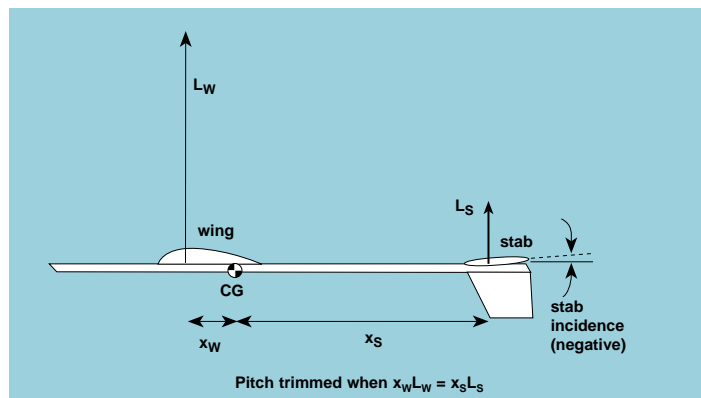

Figure 15 - Pitch trim of a glider
The wing of a boost glider is not stable in pitch all by itself. The lift of the wing is assumed to act through a point called the *aerodynamic center* which is located near the quarter chord point (1/4 of the chord length back from the leading edge). The center of gravity (CG) of the wing is typically behind the aero-center, resulting in a pitching moment that would cause the wing to pitch up and tumble end-over-end. The most common way to achieve pitch stability is by adding a second, smaller aerodynamic surface called the *horizontal stabilizer* (or *stab*). The stab produces an opposite pitching moment to counter the pitching moment of the wing (see figure 15). The glider is said to be *trimmed* (or balanced) in pitch when the upward pitching moment due to wing lift (given by  $x_w$  times  $L_w$ ) is equal in strength to the downward pitching moment of the stab (given by  $x_s$  times  $L_s$ ).
where  $A_w$  and  $C_{L_w}$  are the area and lift coefficient of the wing,  $A_s$  and  $C_{L_s}$  are the area and lift coefficient of the stab, and  $x_w$  and  $x_s$  are the distances that the wing lift and stab lift are acting from to the CG. Equation 5 shows us that there are two ways we can trim a glider. The first method involves changing the position of the center of gravity. Moving the CG changes the values of  $x_w$  and  $x_s$  (see figure 15). In practice, we change the position of the CG by adding or removing weight from the nose or tail of the glider.